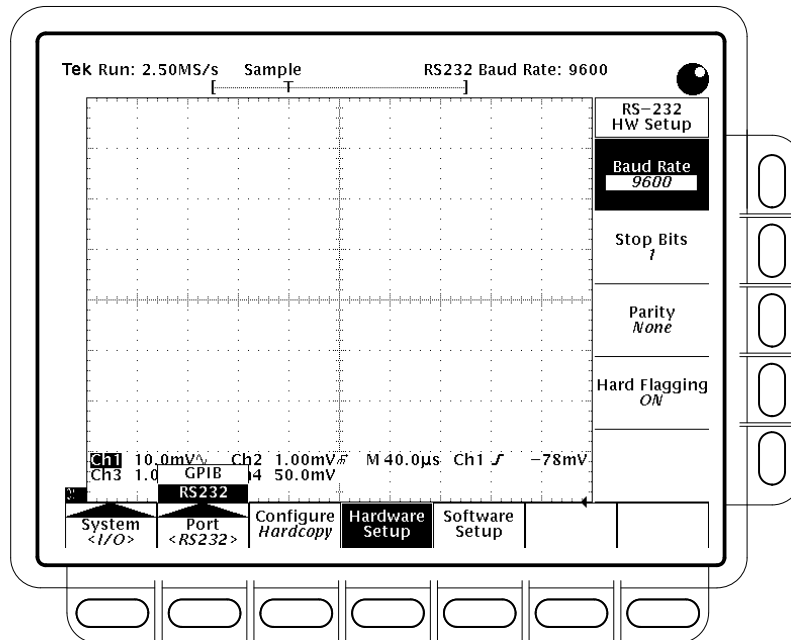

Figure 3–66: Utility Menu — System I/O
Press **SHIFT** → **UTILITY** → **System** (main) → **I/O** (pop-up) → **Configure** (main) → **Hardcopy (Talk Only)** (side). (See Figure 3–66.)
3. Press **SHIFT** → **HARDCOPY MENU** → **Layout** (main) → **Landscape** or **Portrait** (side). (See Figure 3–67.)